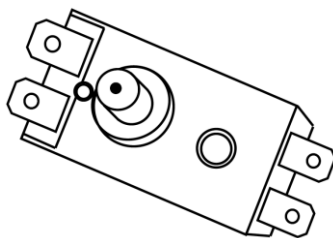

Fig 8
- Press the button located in the center of the thermal switch (round shape, near the heating element) until you hear a click, see Fig. 8;